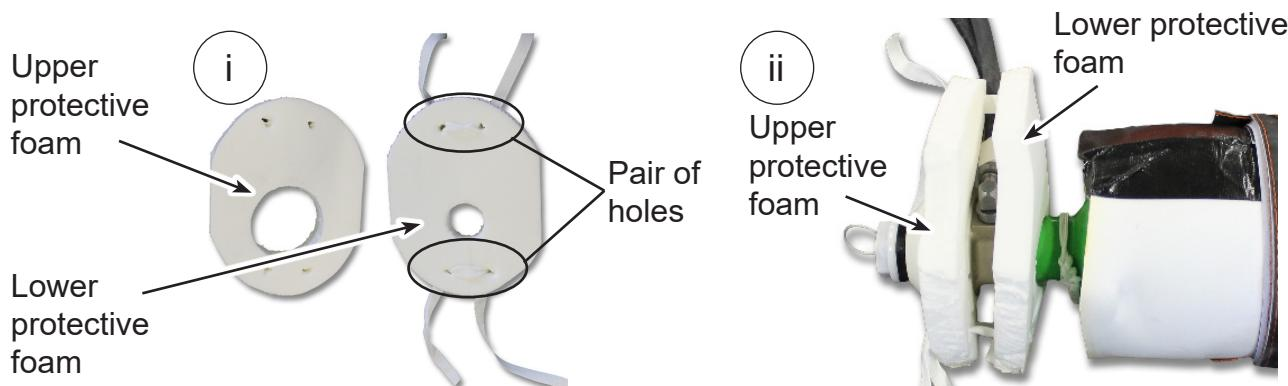

FIGURE 897
9.15 Put a length of N-Series protective foam webbing through each pair of holes in the lower protective foam. Refer to **Figure 897 (i)**.
- 9.18 Tie the N-Series thin webbing to attach the upper and lower pieces of N-Series protective foam together. Refer to **Figure 897 (ii)**.